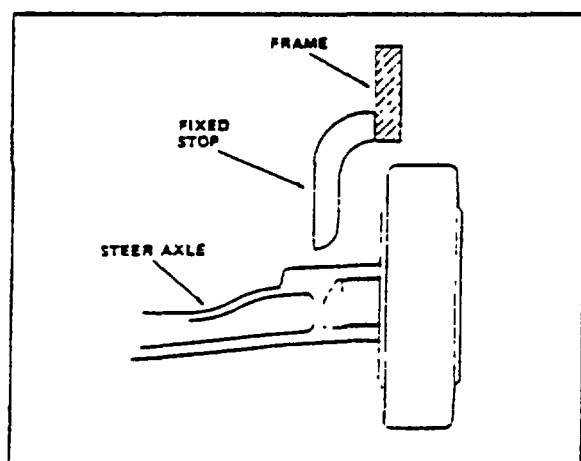

Figure 4-14. Steer Axle Stop
1. Steer Axle Stops Check the steer axle stops at the beginning of each work shift. These stoops are welded to the truck frame in such position that one is directly above each of the steer axle yokes (Fig 4-14).